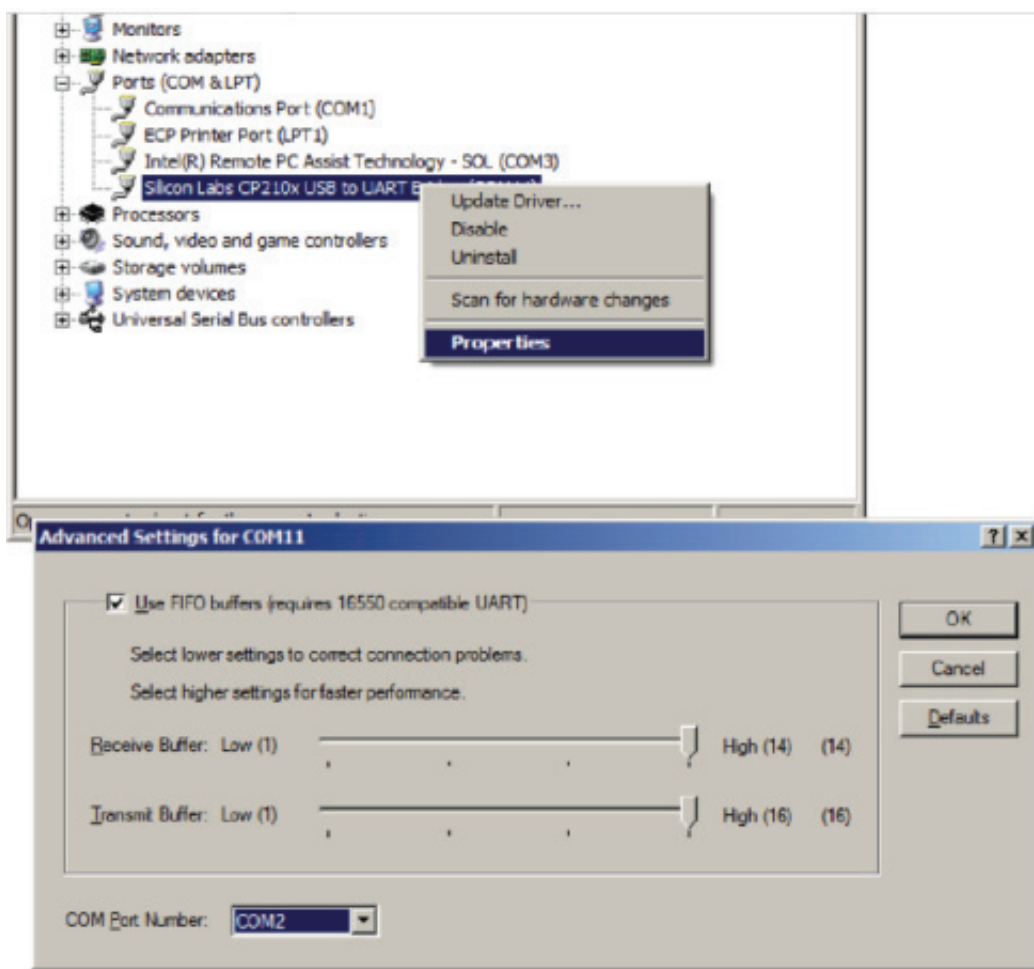

Figure A-2: Setting the COM Port for the Silicon Labs USB to UART Bridge Driver
- b. Set the COM port to an open COM port setting from COM1 to COM4. The COM port setting for the user system might be different from the one shown in Figure A-2.